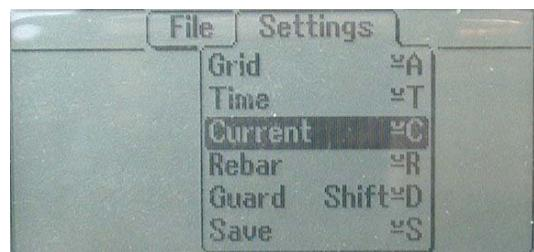

Fig .10. Settings display, current
- a. Press the *Menu* key to enter the settings menu. Fig. 10.